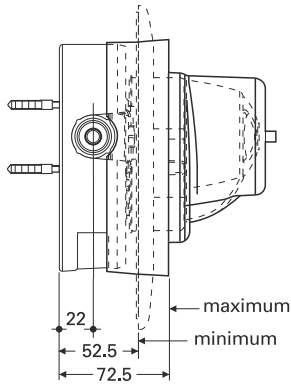
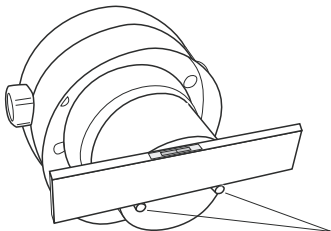

Figure 9 Build-in depth
Figure 10
3. Connect the pipe work to the valve body (Do not make any soldered joints near the valve body and ensure it is installed in vertical and horizontal alignment (Figure 10) to the wall surface and within the built-in depth limits (Figure 9)).
Replace the covers and handles as indicated in Figure 10.